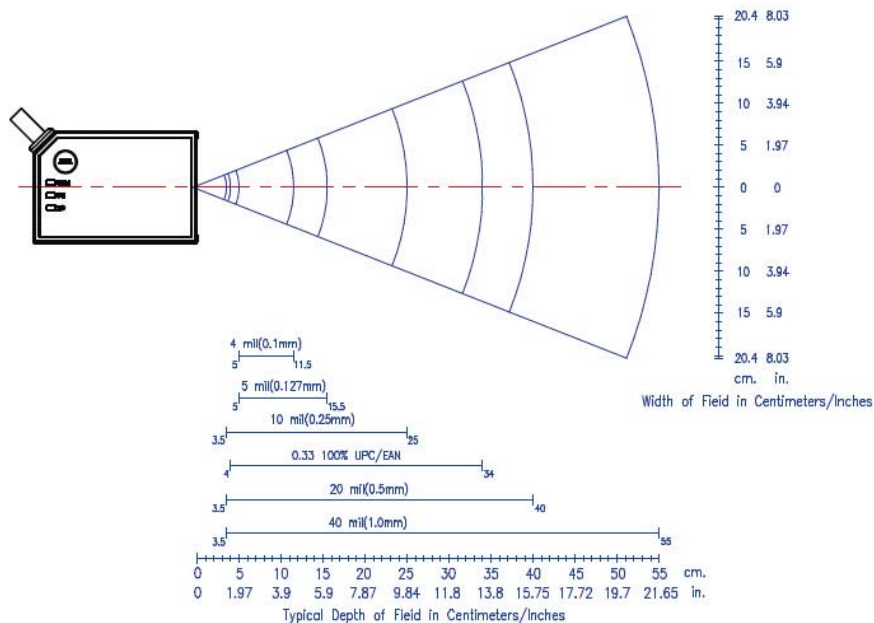

Figure 3: Scan Zone
- d. The barcode label must be placed within the effective depth of field (D.O.F.) since it is the effective reading distance for the barcode from the scanner. For the best placing position, please refer to the Decode Depth of Field drawing. (Figure 3)